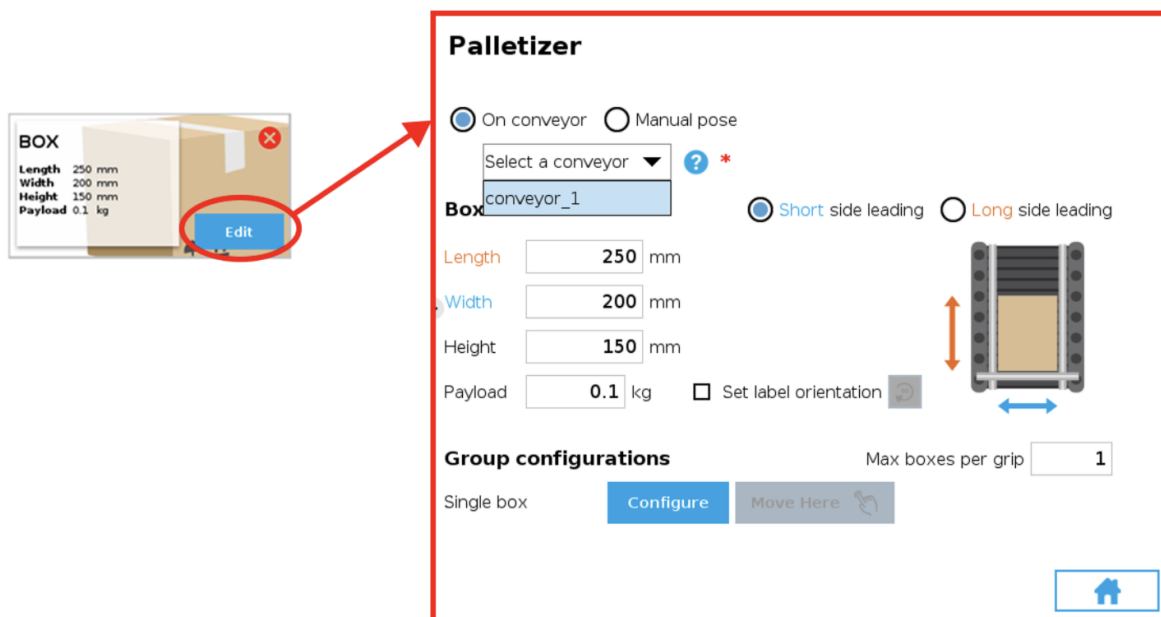

Fig. 5-9: Palletizer Node - Box - Edit - Select a Conveyor
2. Access the Palletizer node, then tap the "Edit" button from the box tile (see Fig. 5-9).